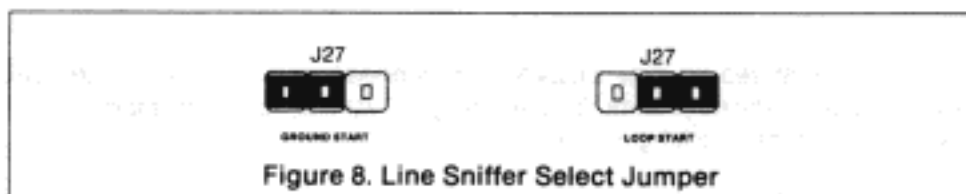

Figure 8. Line Sniffer Select Jumper
- 9.1 **Ground Start** - Some telephone systems require a momentary ground input to initiate dial tone. To interface with a ground start system, a plug-in relay must be inserted into socket K5 and the Line Sniffer Select jumper (ground start/loop start) should be on the pins shown in Figure 8. The Communicator must be connected to an earth ground reference for the ground start system to function correctly. The RJ31X or RJ38X should be installed on the street side of the phone switch, wired ahead of any PBX equipment.